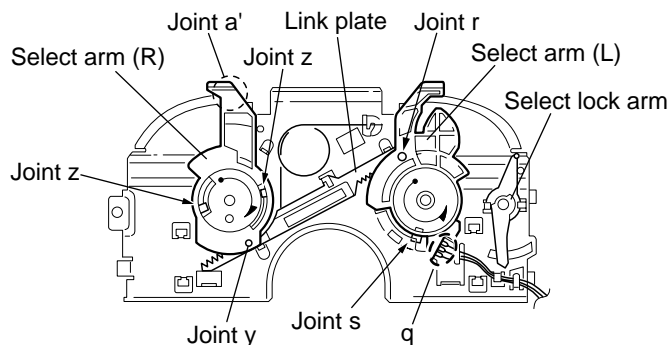

Fig.21
■ Removing the select arm (L) / select lock arm (See Fig.21 and 22)
1. Bring up the select arm (L) to release from the link plate (joint r) and turn in the direction of the arrow to release the joint s.
2. Unsolder the wire of the select arm (L) marked q if necessary.